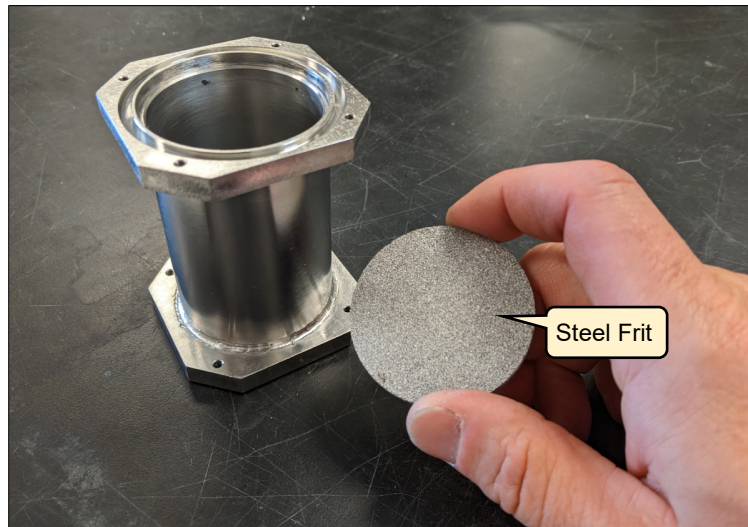

Figure 53: Bottom Frit Removal
7. Remove the steel frit as shown in Figure 53 below.